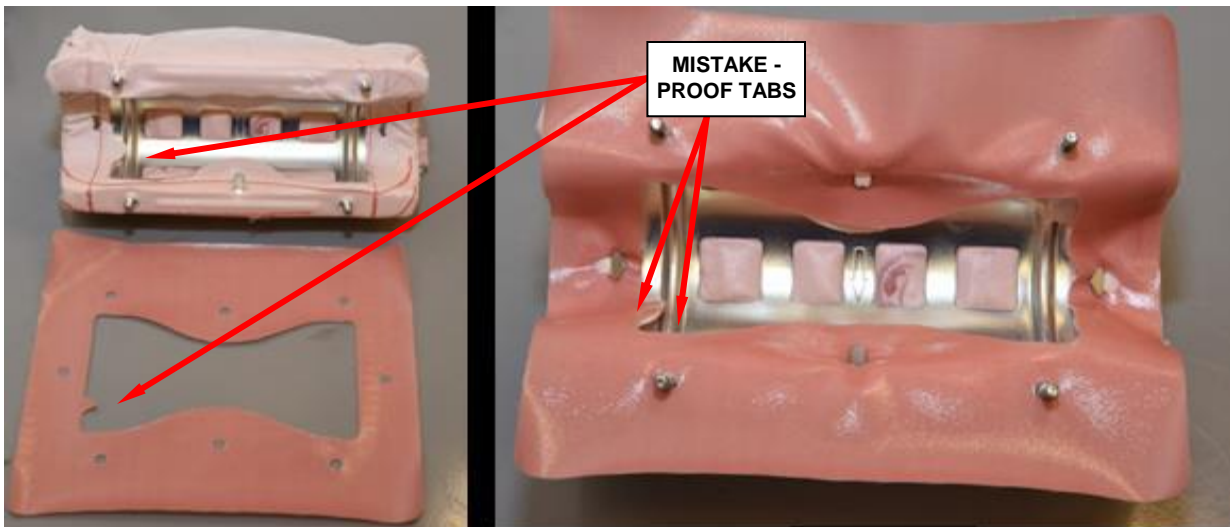

Figure 29 – Fabric Gasket to Cushion
- h. Place the fabric gasket, glossy side up, onto cushion. Mistake-proof tab should be aligned to the tab on the cushion (Figure 29).